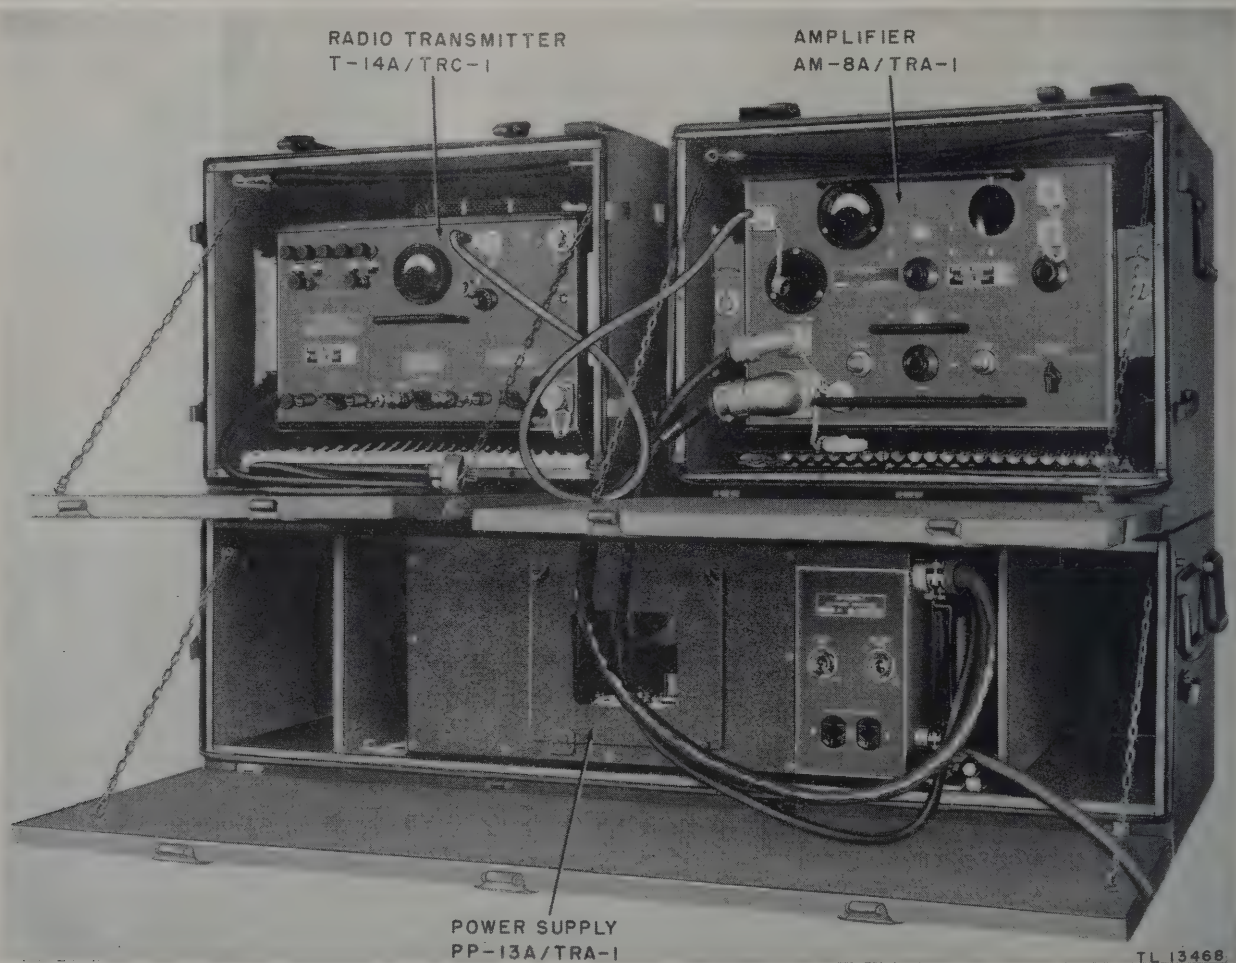

Figure 4. Amplifier Equipment AN/TRA-1A, with Radio Transmitter T-14A/TRC-1.
(2) This equipment is intended for operation as a *relay station* of a single-channel or multichannel radio-relay communication system when continuous operation is required. Running spares and maintenance equipment are furnished to insure uninterrupted service in case of failure of a major component. Operating accessories and maintenance equipment have been selected with due regard for the continuous service the repeater set is expected to furnish under isolated conditions.
(3) Radio-relay systems are used as connecting links in wire communication networks where the terrain features are such that the laying of wire facilities is not feasible. The frequency range of this equipment (70 to 100 mc) is such that for optimum operation there should be an unobstructed line-of-sight transmission path between two stations.
d. **AMPLIFIER EQUIPMENT AN/TRA-1(*)**. Amplifier Equipment AN/TRA-1(*) consists of 200-watt r-f (radio-frequency) power Amplifier AM-8(*)/TRA-1, Power Supply PP-13(*)/TRA-1, accessory components, and spare maintenance parts. This equipment is used in conjunction with Radio Transmitter T-14(*)/TRC-1 (fig. 4) when more power is required to maintain good communication under adverse conditions, such as unfavorable terrain or long spans between stations.